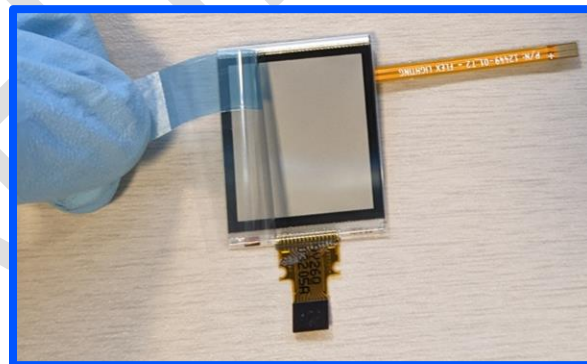

Figure 12. Removal of protective liner using speedy tab.
- Remove the protective film slowly, using the speedy tab, pulling at a  $\sim 30^\circ$  angle from display surface. Remove under an ESD control device, like an ion blower, in a  $>50\%$  RH environment to reduce the risk of static charge. Refer to Figure 12.